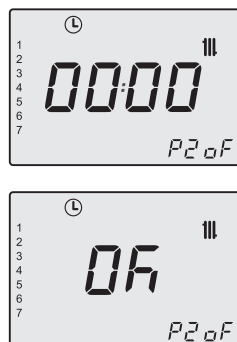

Fig. 2.18
Once the scheduling is set to 00:00, confirm with key 14 and the related automatic off time bracket will be set to 00:00 (Fig. 2.18).
Press key 19 briefly to save the values entered and the display will indicate **OK** to confirm (Fig. 2.18).